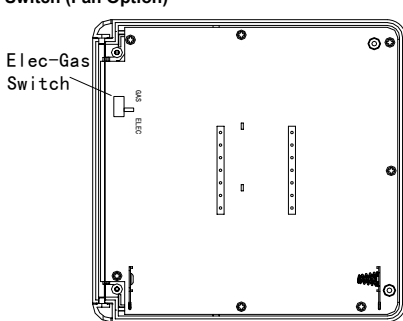

Figure 1. Electric/Gas Switch (Fan Option)
This thermostat is configured from the factory to operate a heat/cool, fossil fuel (gas, oil, etc.), forced air system. It is configured correctly for any system that DOES NOT require the thermostat to energize the fan on a call for heat. If you system is an electric heat or heat-pump system that requires the thermostat to turn on the fan on a call for heat, locate the ELEC/GAS switch on the back of the thermostat (see fig. 1) and switch it to the ELEC position. This will allow the thermostat to energize the fan immediately on a call for heat. If you are unsure if the heating/cooling system requires the thermostat to control the fan, contact a qualified heating and air conditioning service person. When the thermostat is configured for Heat Pump, the thermostat will always power the circulator fan on a call for heat in the HEAT mode. The ELEC/GAS switch must be set to match the type of Auxiliary heat your system uses for proper operation in the EMER mode.
- Fasten base loosely to wall, as shown in fig. 1, using two mounting screws. Place a level against bottom of base, adjust until level, and then tighten screws. (Leveling is for appearance only and will not affect thermostat operation.) If you are using existing mounting holes, or if holes drilled are too large and do not allow you to tighten base snugly, use plastic screw anchors to secure sub base.